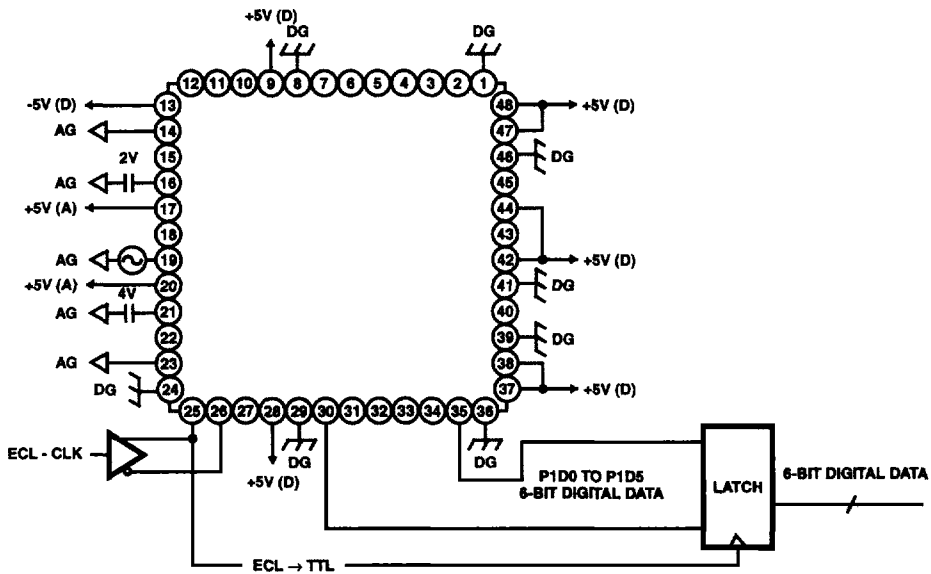

FIGURE 22. STRAIGHT ECL INPUT
**Straight Mode** (See Figures 22, 23, 24 and 25).